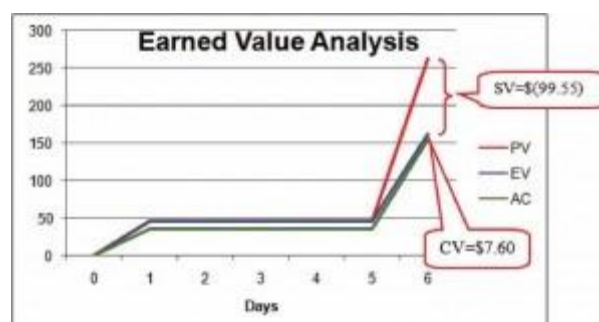

Figure 12.7 Schedule Variance and Cost Variance Source: <http://pm4id.org/9/2/>
The cost variance of positive \$7.60 and the CPI value of 1.05 tell John that he is getting more value for his money than planned for the tasks scheduled by day six. The schedule variance (SV) of negative \$99.55 and the schedule performance index (SPI) of 0.62 tell him that he is behind schedule in adding value to the project (Figure 12.7).